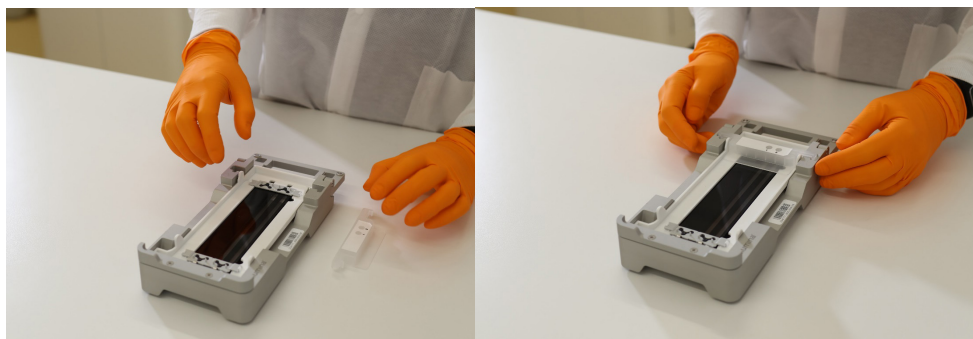

Figure 3. Mounting manifold over inlet
9. Mount the manifold over the inlet end of the flow cell, with the wells facing up (*Figure 3*). Make sure that the manifold arms fit securely into the dock cutouts.